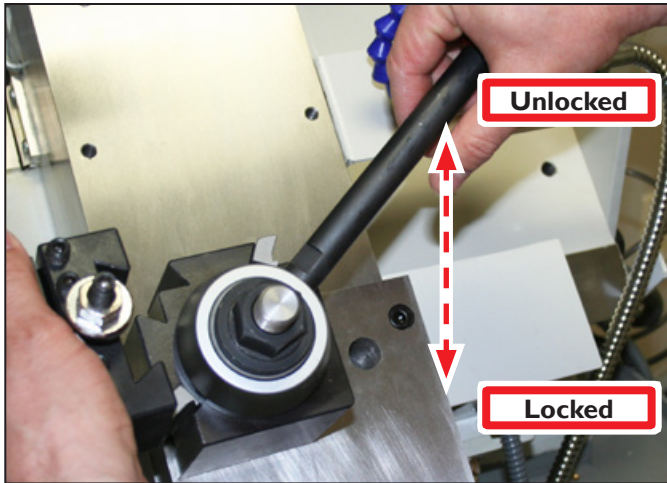

Figure 9
9. Swing Tool Post Handle up to unlocked position (see **Figure 9**).
10. Slide Tool Holder onto Tool Post dove tail (see **Figure 9**). Swing Tool Post Handle down to locked position.